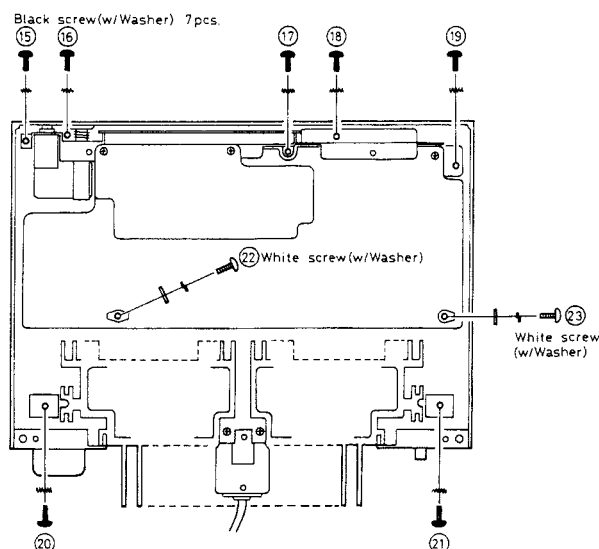

Fig. 4
5. Remove 9 setscrews (⑮ ~ ⑳, in Fig. 4) which secure printed circuit board, chassis and heat sink.
7. When installing, refer to Fig. 4 and pay attention to installing positions.